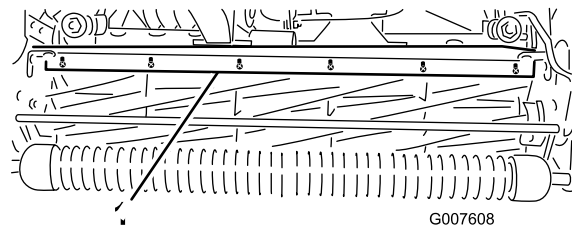

Figure 51
1. Loosen the screws securing the top bar (Figure 51) to cutting unit.